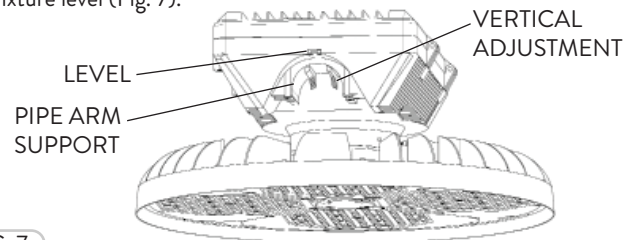

FIG. 7
- 2 The FHMA fixtures have Vertical Adjustments inside that allow the fixture to be tilted at angles up to 5°. Use the Level to install the fixture level (Fig. 7).